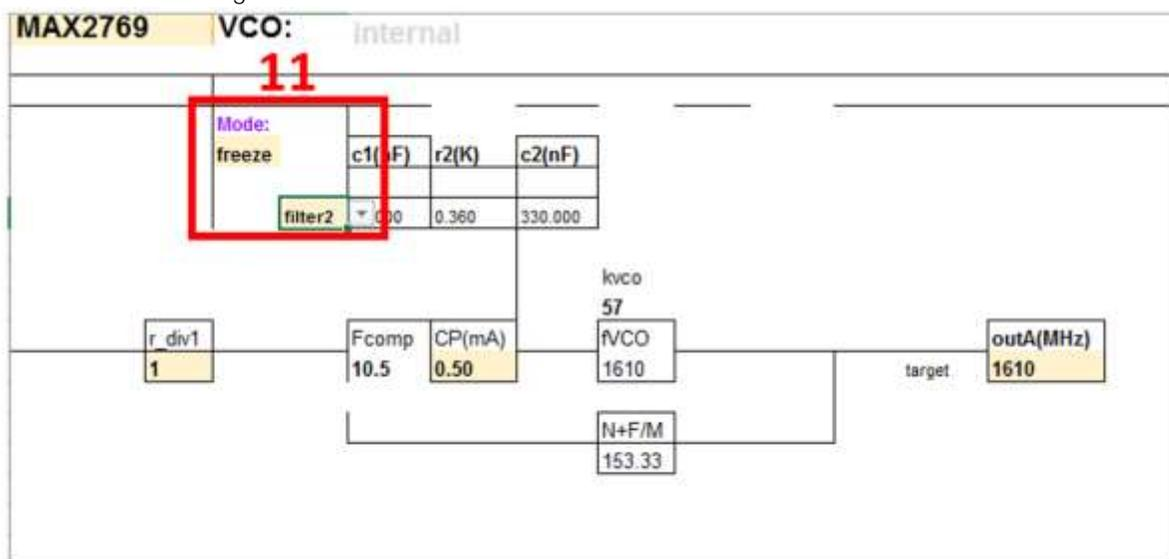

Figure 7. Loop filter spreadsheet calculator mode.
| Figure 7. Loop filter spreadsheet calculator mode.....             | 7 |
13. Based on the parameters and loop filter values calculated, the phase noise is simulated and shown in Figure 7.